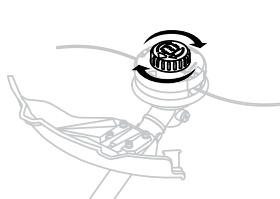

Fig. 8C
4. Hold the line cartridge with one hand and turn the bump knob counterclockwise with the other hand, until both ends are approximately 6 inches long. (Fig. 8C)